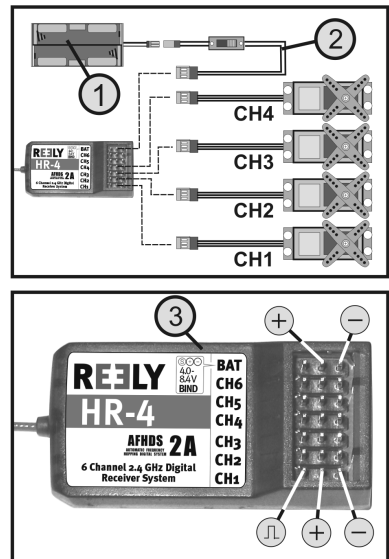

Figure 5
First, switch on the transmitter and then the receiver. If the binding function is working correctly, the red LED indicator in the receiver (see figure 5, item 3) lights up and the four servos react to the movements of the control levers. Verify correct receiver function and then switch the receiver off again.